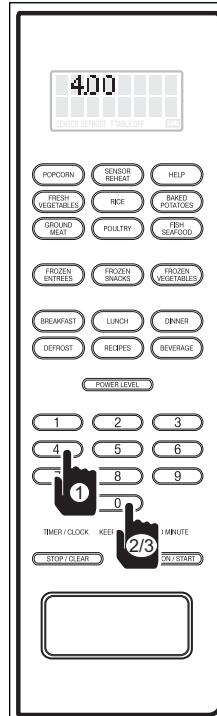

Figure 3-42.
1. Enter desired defrost time duration. For example: 4 minutes; press the number 4 key, then the number 0 key twice (See Figure 3-42), and the display will flash "4.00 - PRESS START - OR PRESS - POWER LEVEL".